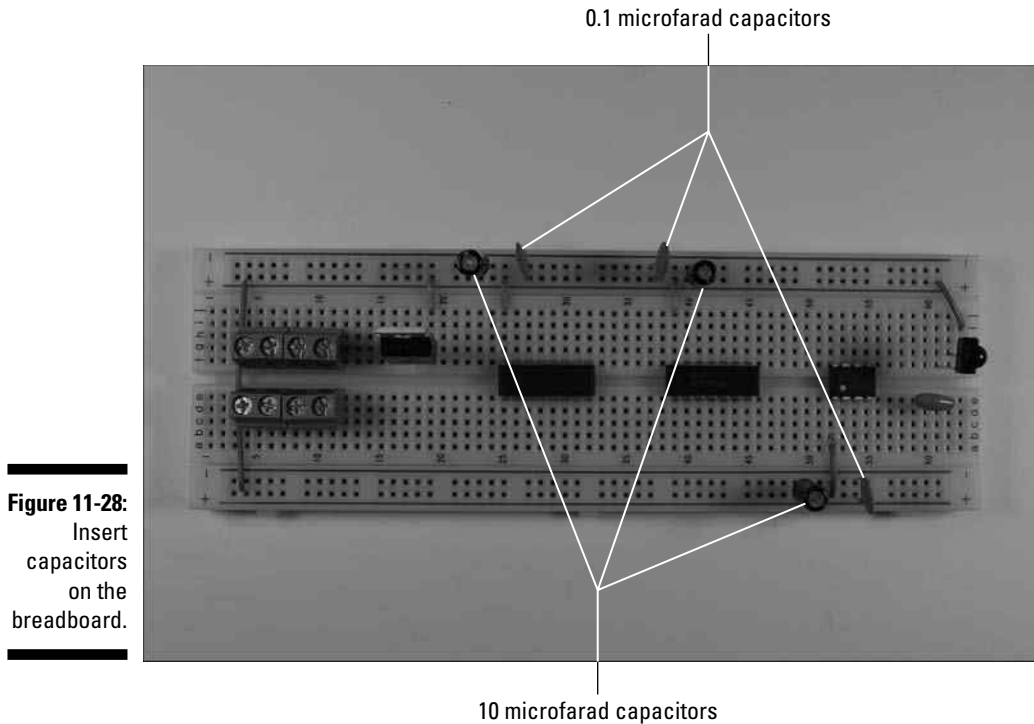

Figure 11-28:
5. Insert a set of one 10 microfarad and one 0.1 microfarad capacitor between the + voltage bus and the ground bus next to the V+ input for the decoder IC. Do the same for the inverter IC and the H-bridge IC, as shown in Figure 11-28.